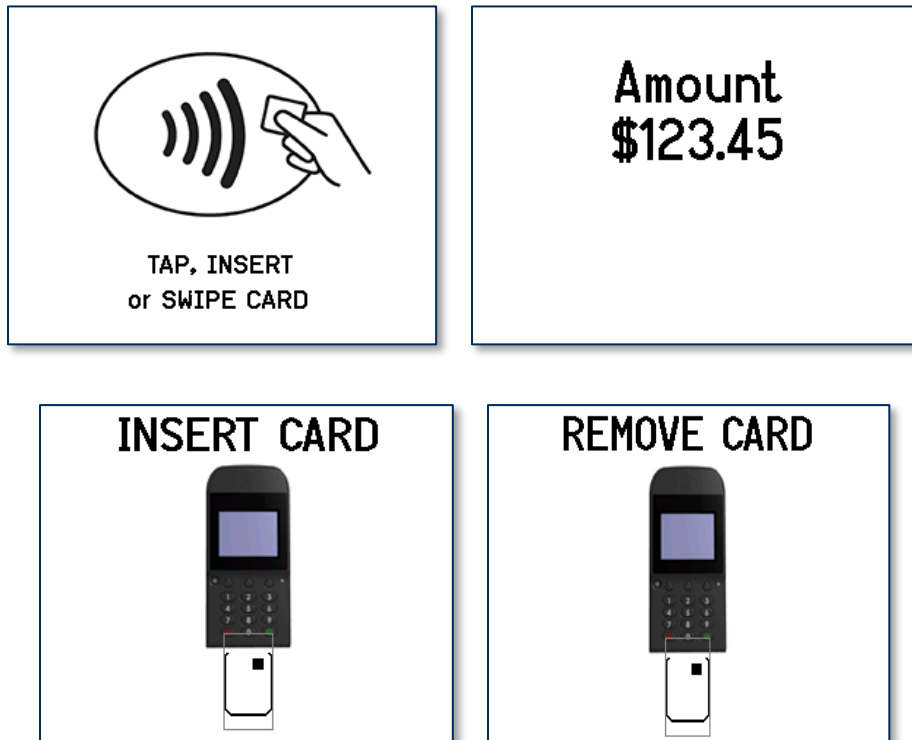

Figure 6-15 - Example Card Insertion Screens
- 1) Wait for the display to show an action prompt. If the host has directed the device to accept contactless payments for the transaction, the device will toggle between the transaction amount and an action prompt (see **Figure 6-15** for examples).